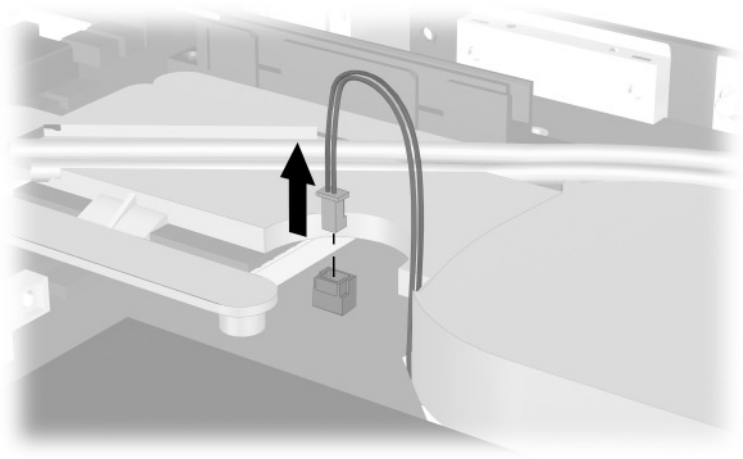

Figure 5-30. Disconnecting the Fan Cable
3. Disconnect the fan cable from the system board (Figure 5-30).